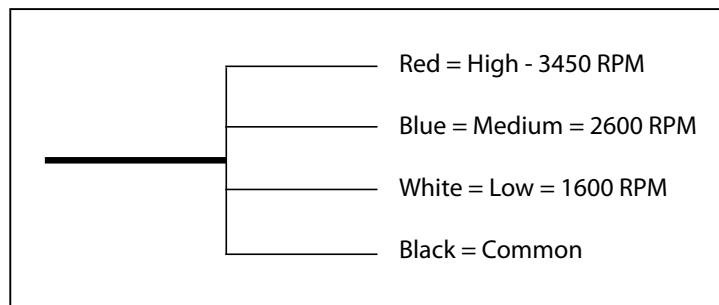

Figure 2
The Badu EcoM3 consists of an operator control panel and the system electronics that drive the motor along with a ten (10) foot remote controller cord. Speeds can be changed by the controller at the top of the motor or remotely by use of a remote controller (External controller not provided, available through Speck Pumps). This pump can also be plugged into an external controller to meet all existing state or local codes. Figure 2: 3 Channel time clock with potential free contacts. (Also called “dry contacts”) A device using “momentary switches” would also work. *NOTE: If remote controller cable is not used, the wiring needs to be isolated. The ends MUST NOT TOUCH or the speeds may be affected*